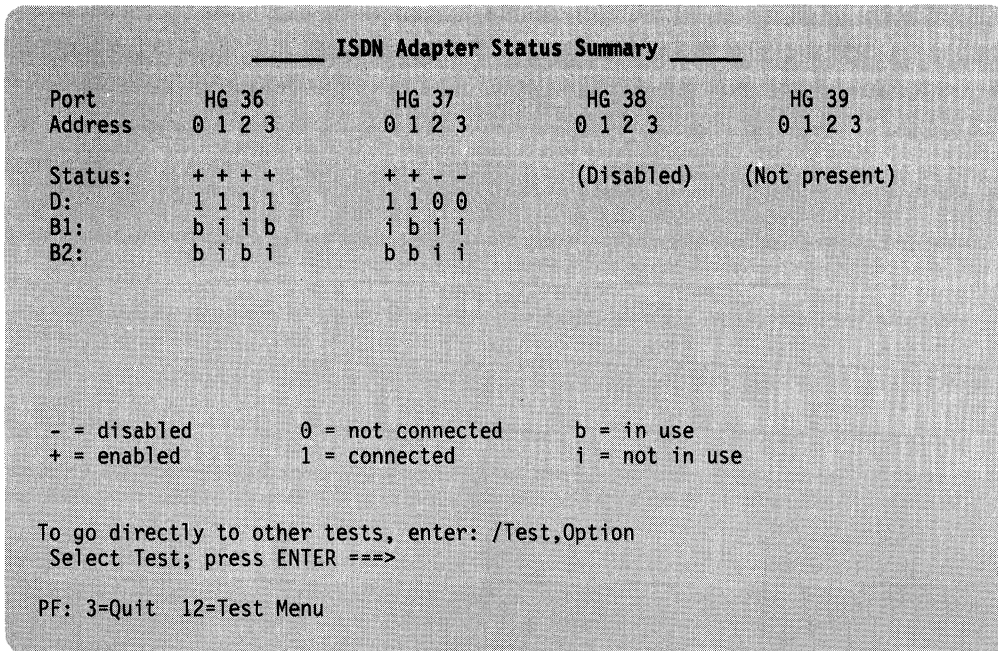

Figure 4-72. Example of an ISDN Adapter Status Summary Panel
**Test 16, Option 1:** Provides a Status Summary panel for the ISDN Adapter and ports. Figure 4-72 shows an example of the panel.